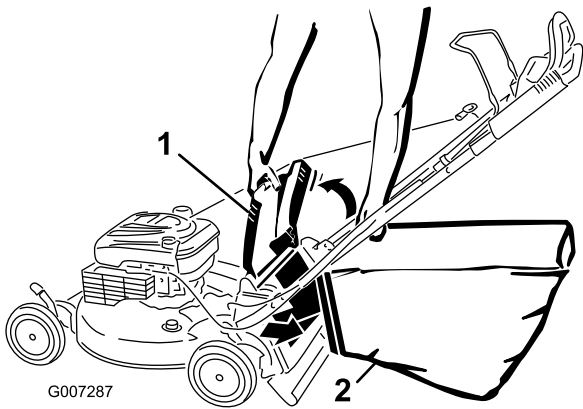

Figure 3
4. Hang the upper front edge of the bag on the notches (Figure 3).